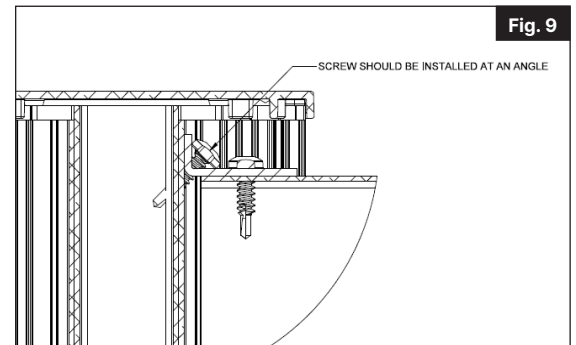

Fig. 9
On top of the last board you will place the smaller L bracket against the post insert and using #10 $\frac{3}{4}$ " screws provided you will screw the bracket to the board then at a 45 degree angle you will screw the bracket to the post insert (Fig. 9).
9. Add silicone to the underside of the cap and then install the cap on the top of the post and push the cap down until it fits into place (Fig. 9).